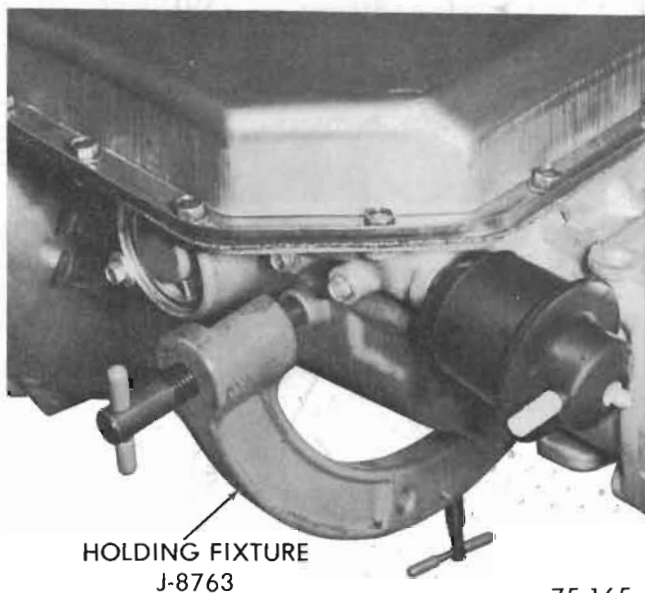

Figure 75-68
2. Place transmission on a CLEAN work bench and use CLEAN tools during disassembly. Provide clean storage space for parts and units removed from transmission. An excellent working arrangement is provided by assembling the transmission to Holding Fixture J-8763. See Figure 75-68.
1. Assemble transmission in Fixture J-8763. See Figure 75-68.
**NOTE:** Before assembling transmission in Holding Fixture J-8763 it must be modified so 1-2 accumulator will clear fixture. Remove 3/8" from Fixture as shown in Figure 75-68.